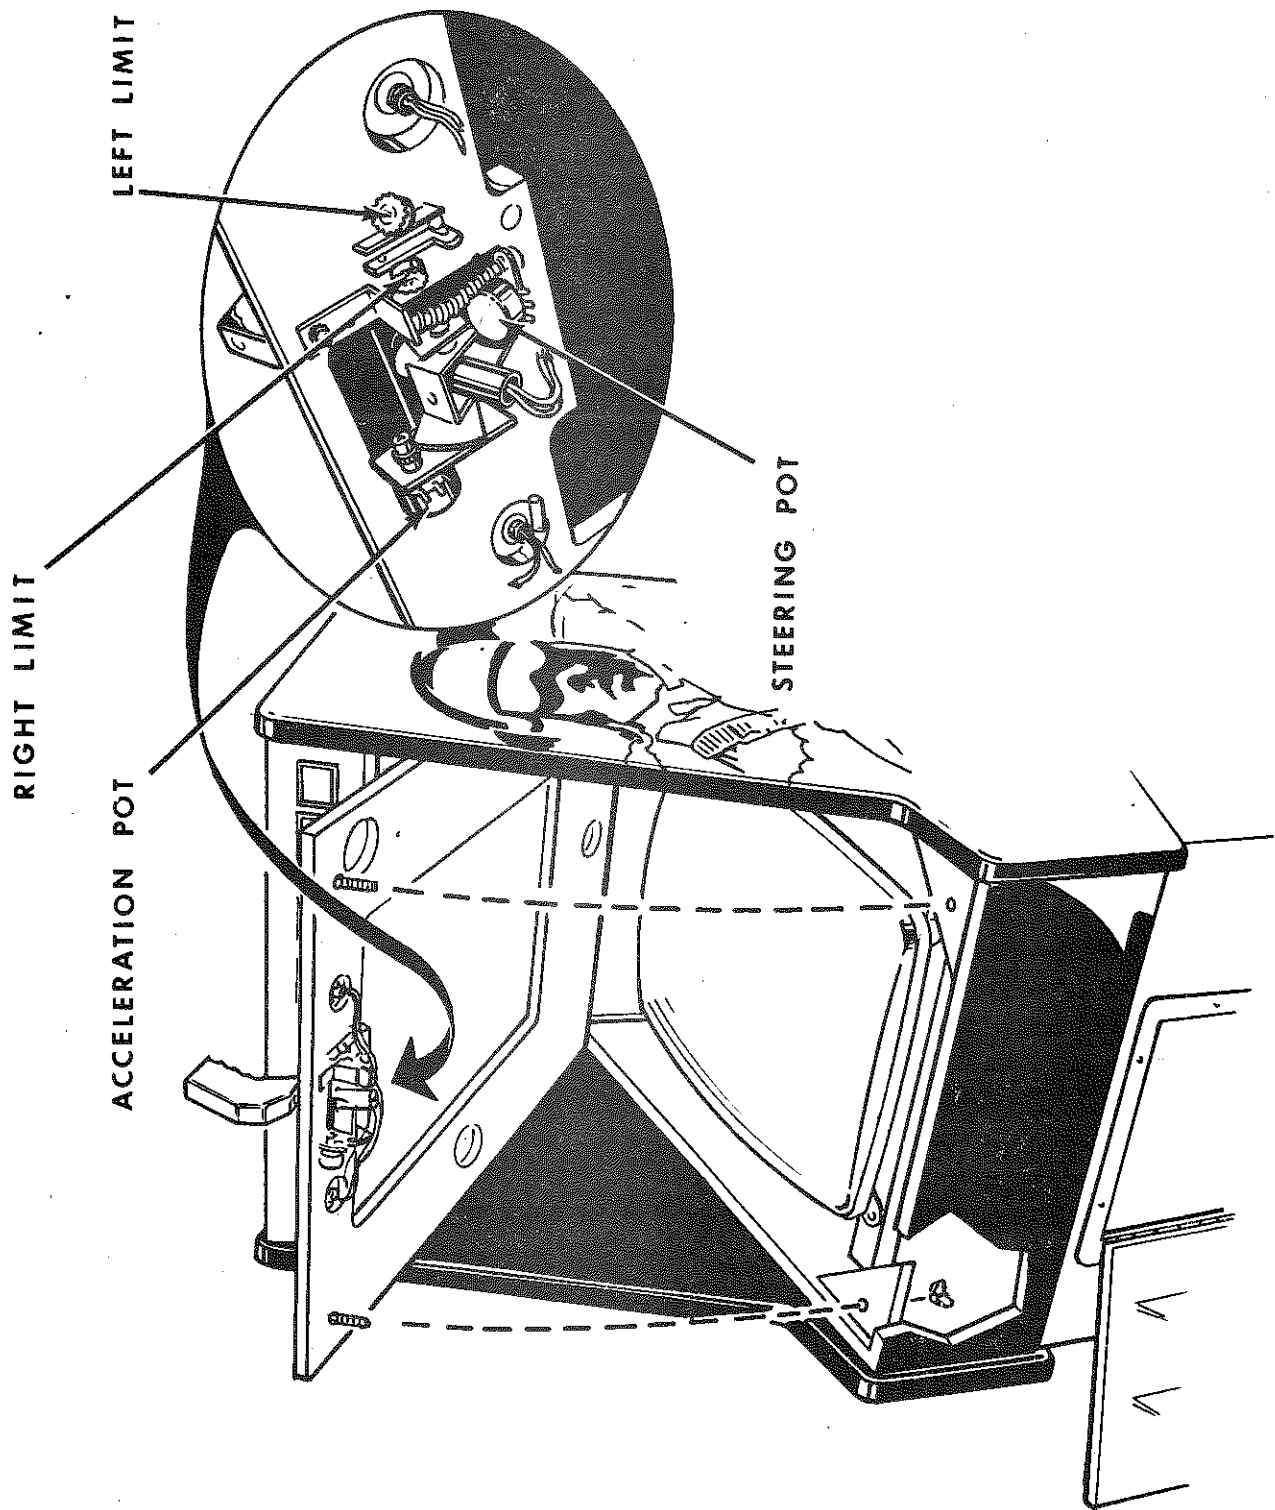

FIG. 3
- . Removal of the Front Control Panel allows access to the "Joystick" Control and all Front Panel Switches. (Refer to Figure 3.)
- . Unloosen and remove the two Wing Nuts which secure the Front Panel. (See Figure 3.)
- 3.0 Joystick trimmer pots (Refer to Figure 3) - Two trimmer pots are used to set the left and right limits of the AVENGER Plane.